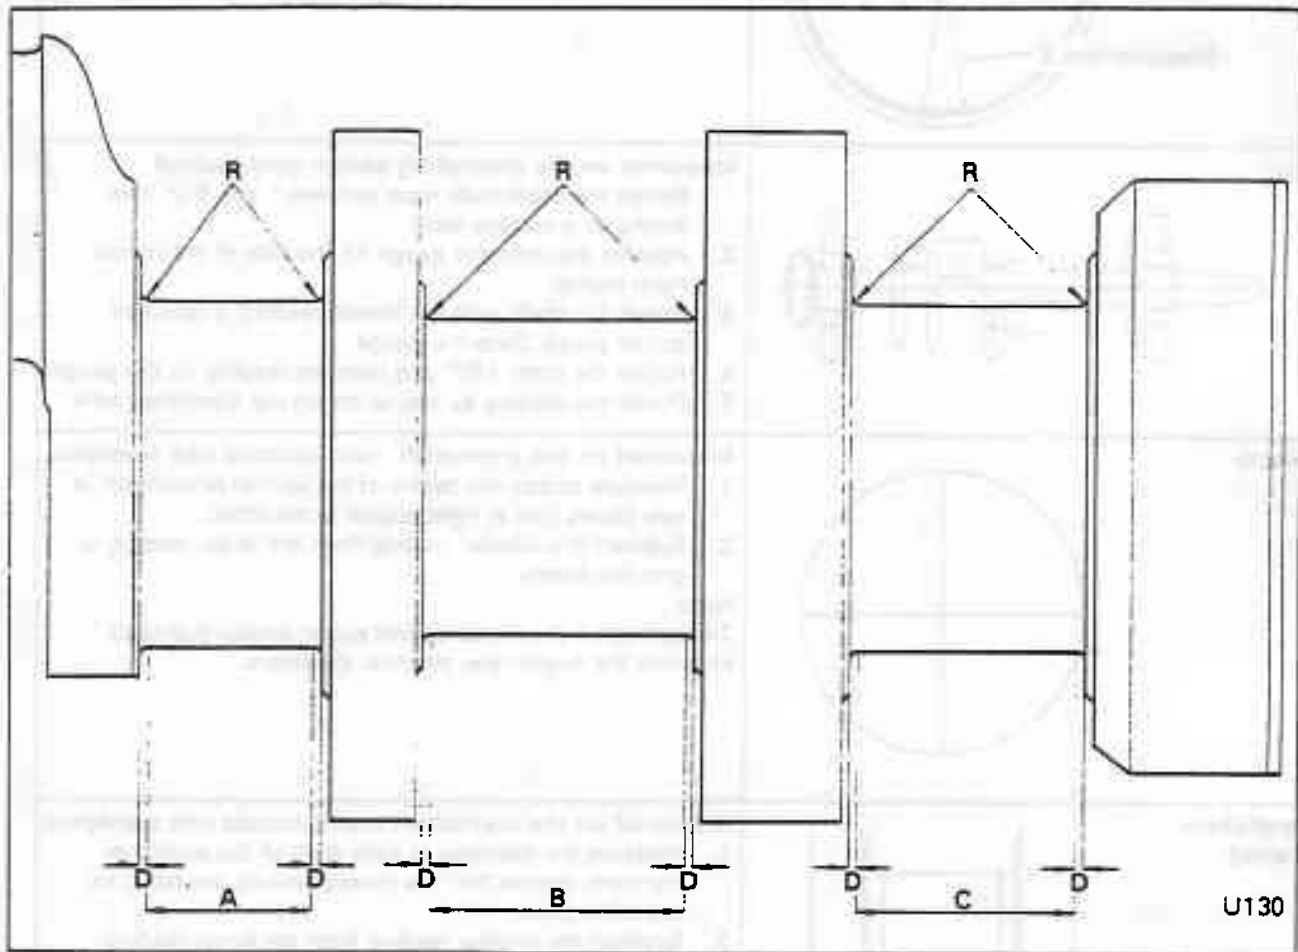

Fig. E5-5 Crankpin and journal grinding dimensions
5. For 'plunge' grinding, the width of the stone must be 0,50 mm (0.020 in) less than the dimension between the journal or crankpin end faces and the machine must be fitted with hydraulic stops. For traverse grinding a suitable width of stone should be selected (see fig. E5-5).